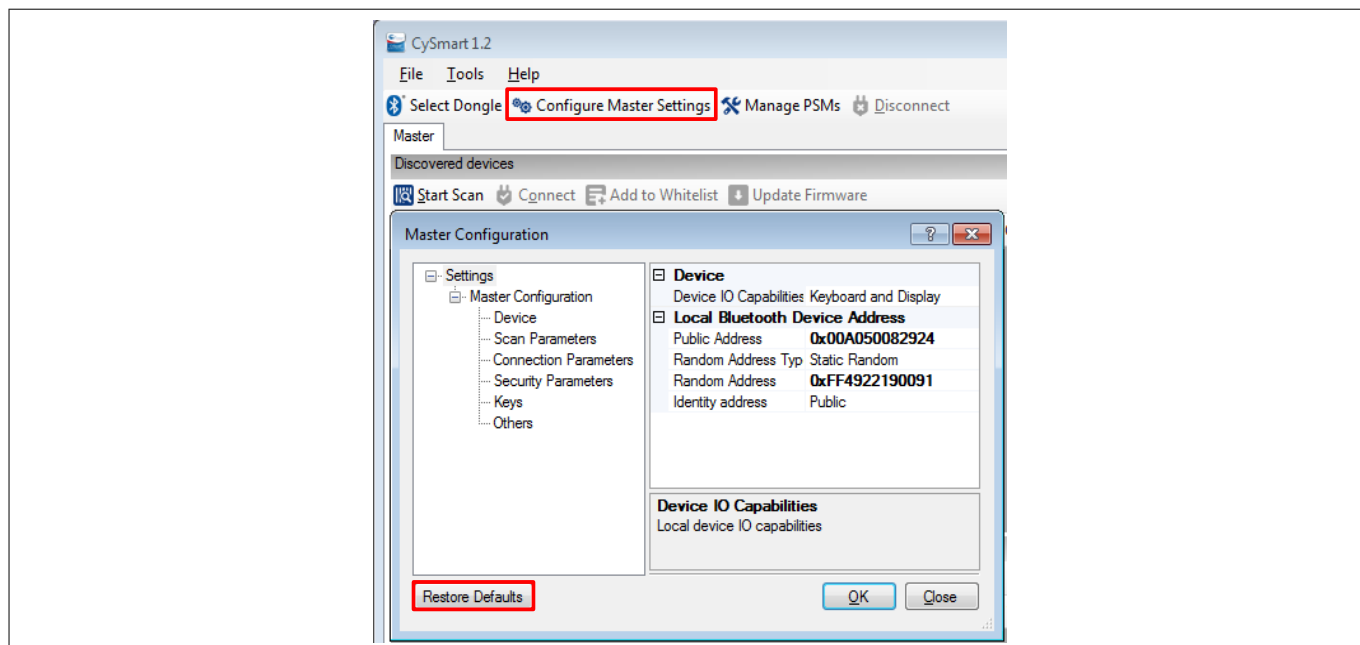

Figure 56 CySmart master settings configuration
- Click **Configure Master Settings** and then click **Restore Defaults**, as shown in Figure 56. Then, click **OK**